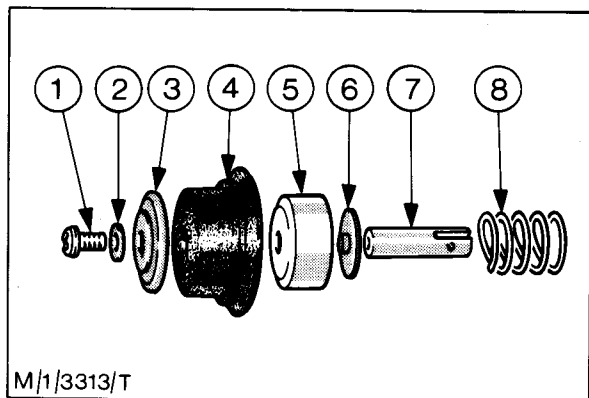

Fig. 39 - Piston and Diaphragm Assembly
11. Undo the crosshead screw in the top of the diaphragm/piston assembly and discard the washer. Separate the rod, bottom plate, piston, diaphragm and retaining plate (Fig. 39).